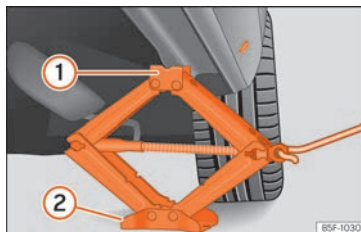

Fig. 77 Fitting the jack.
• Turn the jack* crank handle, located below the strut support point, to raise it until the tab ① » » » Fig. 77 is below the housing provided.
• Align the jack* so that tab ① "grips" onto the housing provided on the strut and the mobile base ② is resting on the ground. The base plate ② should fall vertically with respect to the support point ①.